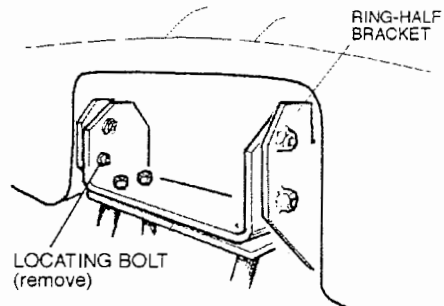

Fig. 4.8.1
2. Remove the locating bolt in the ring-half hinge mechanism (see Fig. 4.8.1), and lift the ring-half into the vertical position. Remove the cable bar cover (held in place by 2 screws).